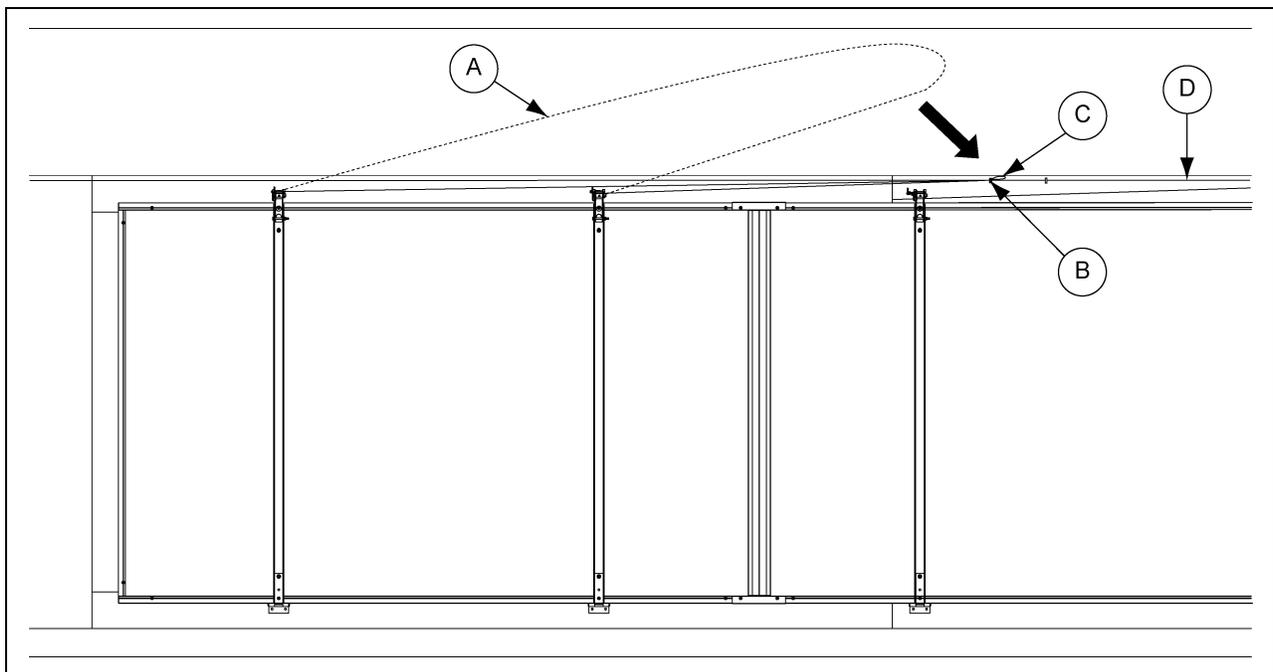

Figure 3U
6. Pull the nylon cord (A) tight and attach it to the actuation rod (D) using a cable clamp (B). Leave a 2" loop (C) at the end of the cord. (See Figure 3U.)